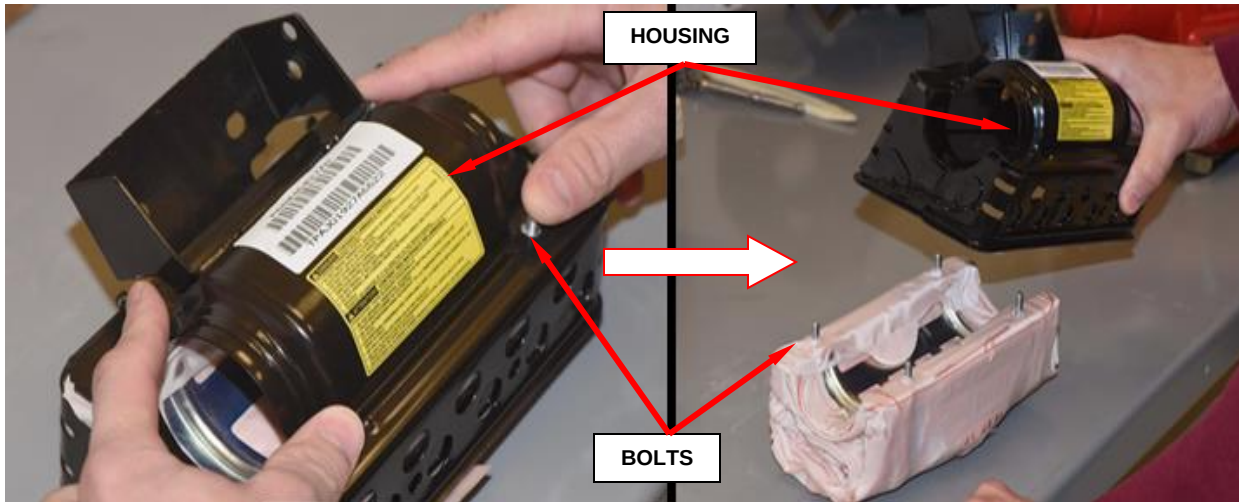

Figure 76 - Remove Airbag Cushion from Housing
- e. Remove airbag cushion from housing by applying pressure to the bolts, set cushion aside (Figure 76).